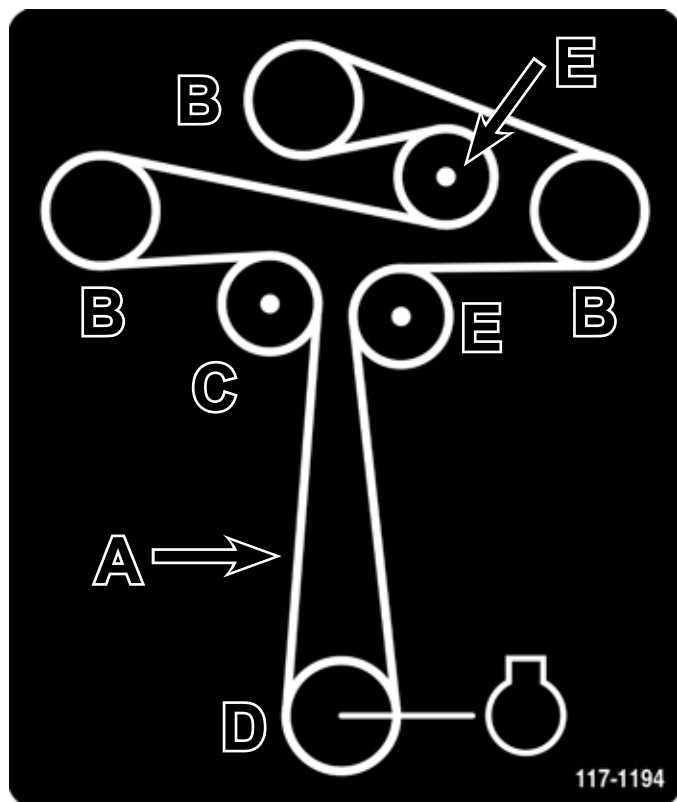

Fig. 091
8. Properly route new belt around the deck pulleys and PTO pulley (Fig. 091).